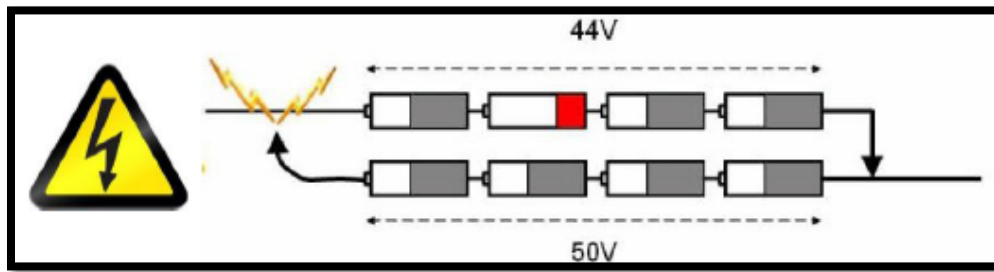

Figure 6-5: Risk of Excessive Current Flow and Arcing
4. Ensure that the voltages of each string are the same prior to connecting the strings in parallel. A voltage differential can cause arcing and a large surge of current. This sudden energy transfer can be extremely dangerous and the resulting circulating current into the lower voltage string may over-charge any cells in a battery module which are close to fully charged, as shown in figure 6-5.